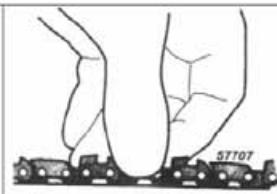

Fig. PP7
4. Pull the chain by hand along the top of the guide bar several times from the engine to the bar's tip. The chain should feel snug but still pull freely. See Fig. PP7.